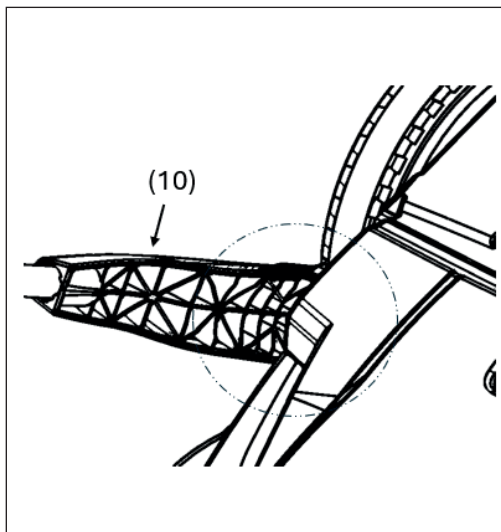

Fig. 9: Sliding bracket assembly
1. Move the push handle into the position so that the bar in the handle fitting (10) aligns with the edge of the canopy (Fig 9). In this position, the latching lug in the handle fitting aligns with the groove in the frame and the handle fitting can be removed with a little outward pressure.